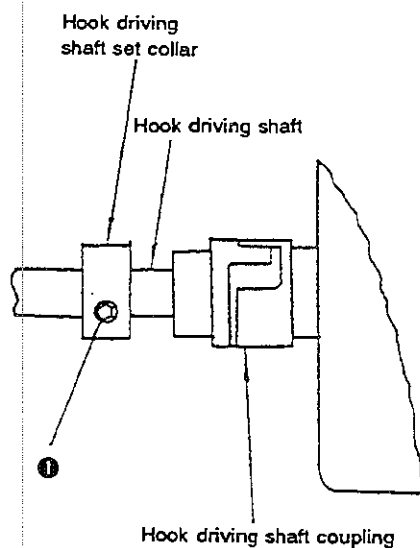

Fig. 3
<ol style="list-style-type: none"> 1. Set the stitch dial at "0" on the scale. (Fig. 1) 2. Loosen screw ❶ the thrust collar of the hook driving shaft. (Fig. 3) 3. Align the graduation "L" on the handwheel with the handwheel pointer. (Fig. 1) 4. Turn the hook in the normal direction of rotation until the blade point of the hook is aligned with the center of the needle. 5. Tighten screw ❶. <p>(Caution) Adjust the needle entry in the needle slot of the feed dog in terms of the feeding direction in prior to the adjustment of "Timing between the needle and the hook."</p>	<p>☆ Loose stitches, stitch skipping and thread breakage may result.</p> <p>3'. Refer to "(1) Kinds and names of graduations on the handwheel" on page 3.</p> <p>At this time, hold the hook by hand at the correct position to maintain the accurate needle-to-hook timing.</p>
(4) Clearance between the throat plate and the bobbin case stopper